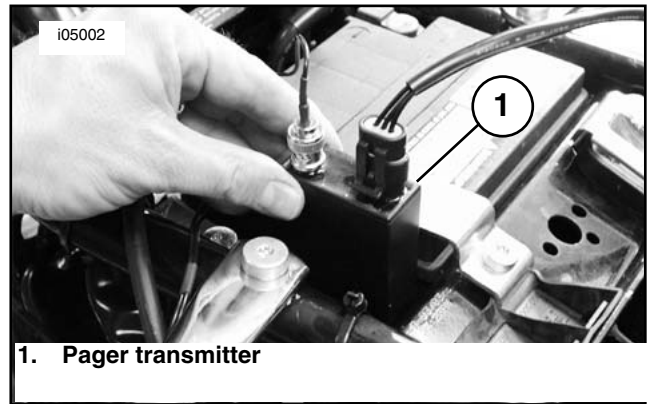

Figure 20. Install Pager Transmitter
18. See Figure 20. Remove the backing from the hook and loop fasteners, and slide the pager transmitter into the opening between the battery and frame tube. Lower the transmitter until the top of the connector wires are below the frame tube. Press the transmitter firmly against the battery.